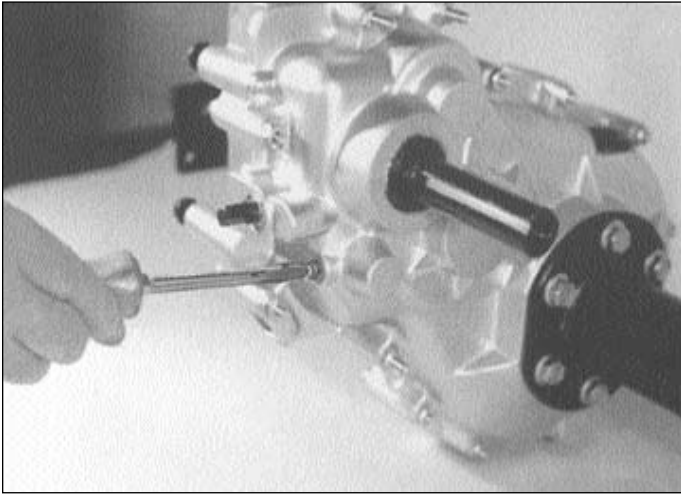

Figure 50 - Remove Detent Screw
1. Remove detent screw. Using a magnet, remove the spring and detent ball from the bore. See Figure 50.